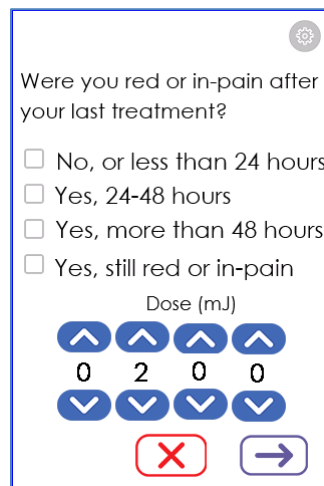

Figure 19 Guided Mode Prompts
3. Respond to the "red or in pain" skin-response prompt (*Figure 19*).